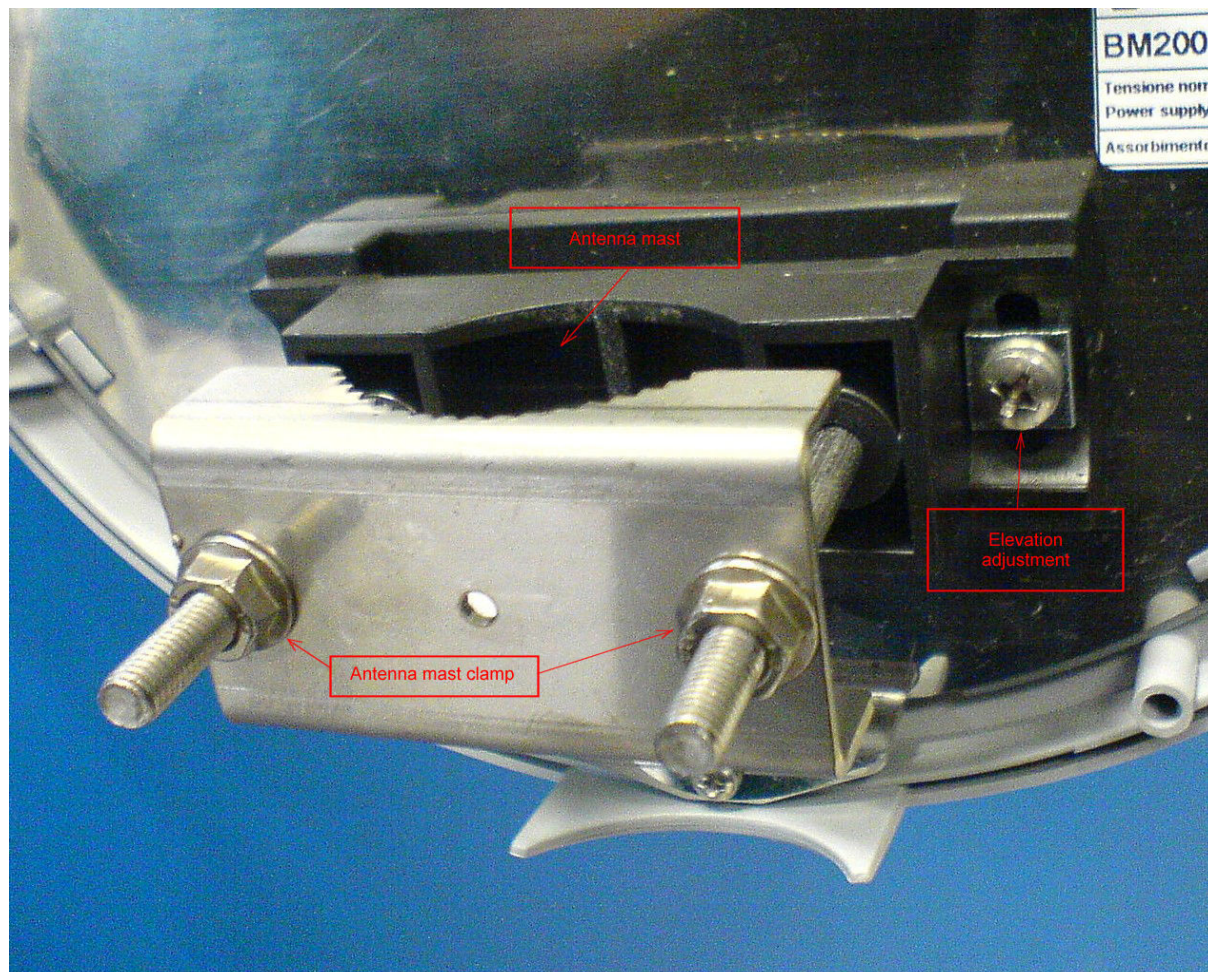

Fig. 6.1 Antenna mounting holder
Antennas of microwave barriers BM120C, BM200C are intended for mounting on galvanized steel pipe masts 38 to 40 mm in diameter. The clamping holder (Fig. 6.1) is adjustable within 3 steps of the antenna orientation adjustment.
5. Locking the adjustment of the transmitting and receiving antenna orientation (by tightening the bolts to fix the antenna on the mast and the elevation adjustment bolts – Fig. 6.1).